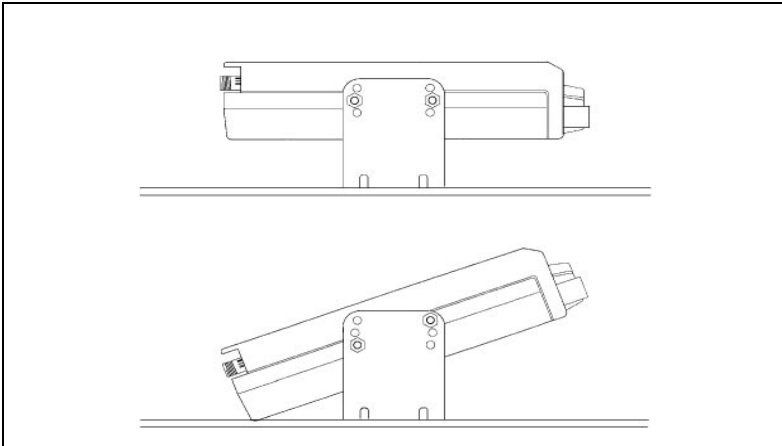

Figure 4 - Mounting the Charger
4. Using the six (6) self-tapping screws, secure the mounting bracket to the mounting surface.
5. Using the four (4) machine screws and lock washers, secure the unit to the mounting bracket. It can be fastened in any of three (3) different positions: parallel to the mounting surface or tilted ± 20 degrees from the parallel position. See Figure 4.